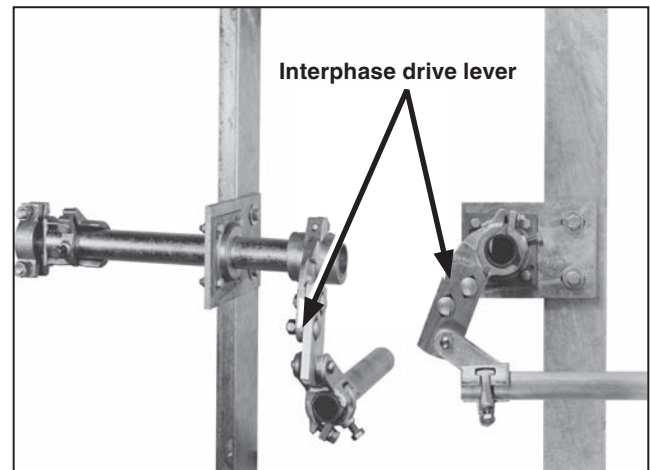

Figure 10. Interphase drive lever installation.
- STEP 9.** Attach the interphase drive lever to the interphase (or outboard) pipe section in the position shown on the erection drawing. See Figure 10.